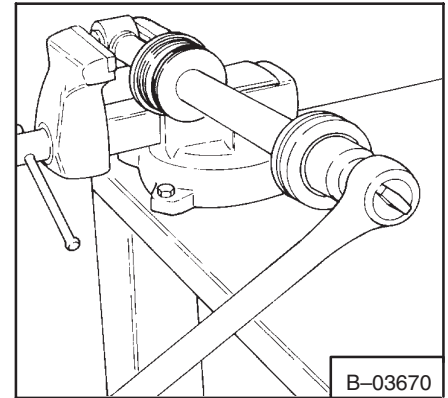

**Fig. 2-68** Installing O-Ring
12. Install the O-ring on the shaft (Fig. 2-68).